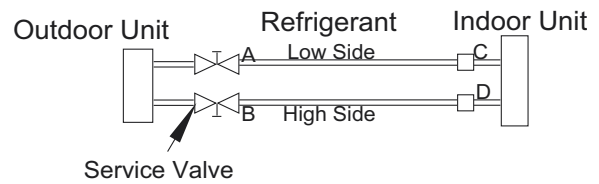

Fig. 40 - Service Valve
1. Completely tighten flare nuts A, B, C, D, connect manifold gage charge hose to a charge port of the low side service valve. (See Fig. 40.)